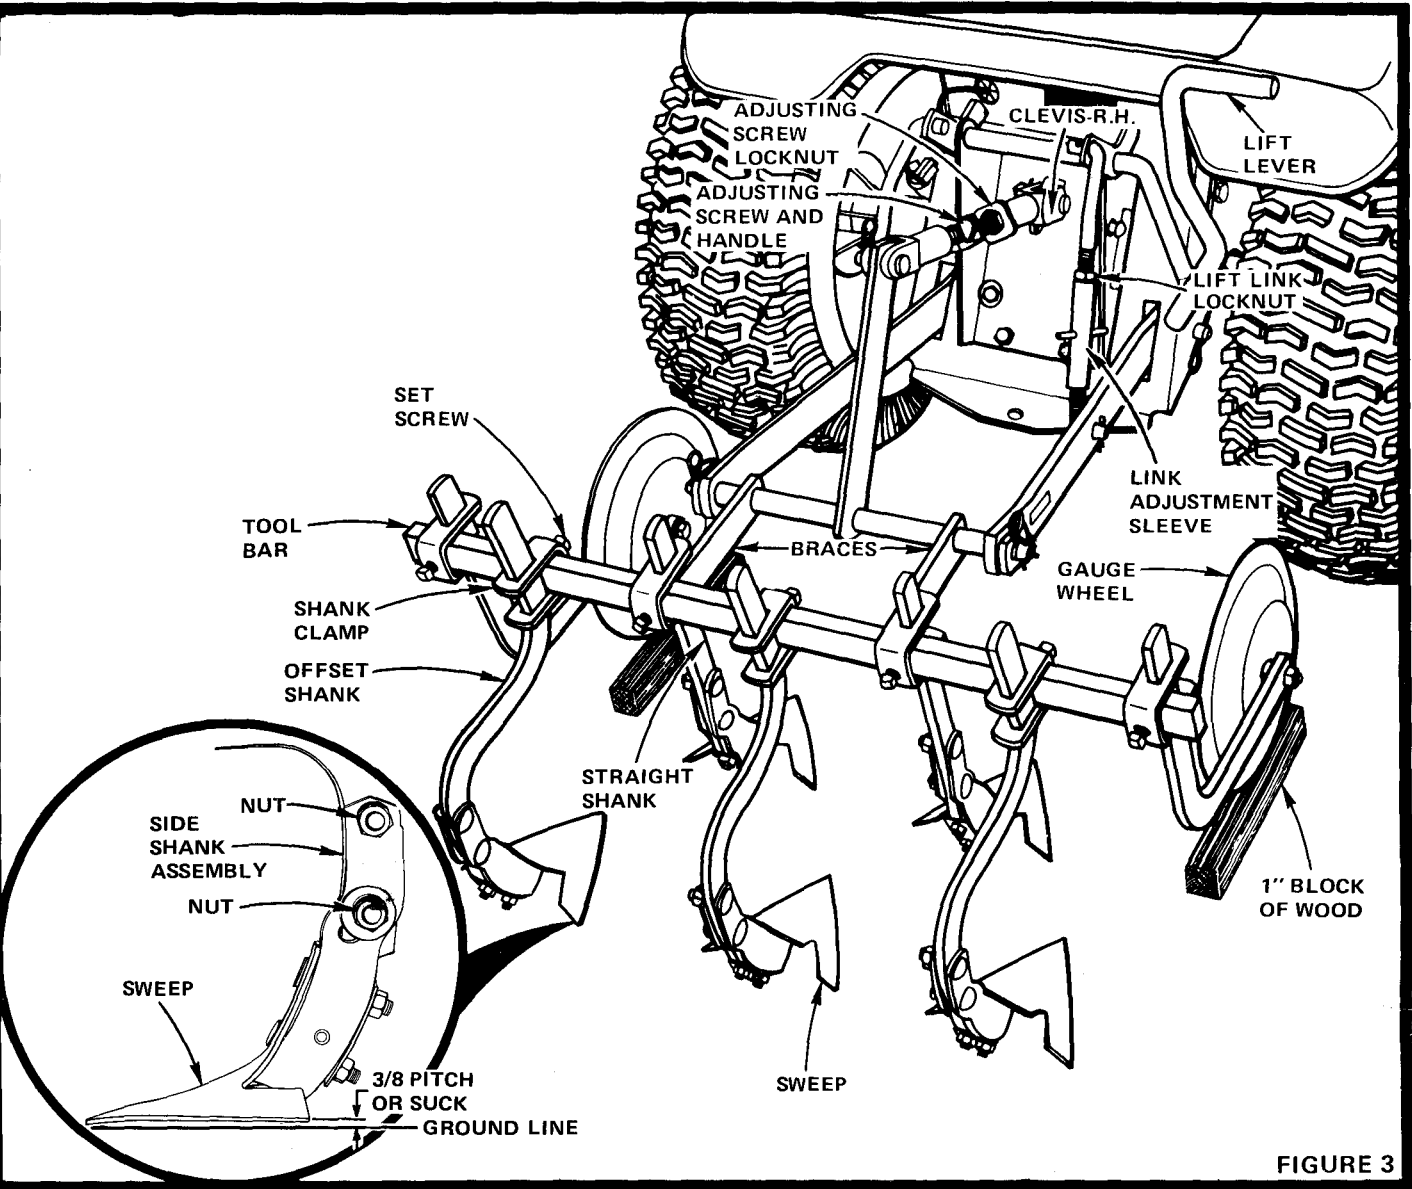

FIGURE 3
Only early, frequent and persistent cultivation will kill most weeds. For destroying most of these weeds, we suggest the Cultivator setting as shown in Fig. 3. In regions of low average rainfall it not only kills weeds quickly, but leaves a roughened surface that holds snow, absorbs moisture, and effectively retards evaporation. Under most conditions, even though the surface soil may be quite dry and pulverized, the sweeps or shovels dig deep enough to bring clods of dirt to the surface. The valuable loose top soil sifts down below the clods where there is much less possibility of its being carried away by wind or water. This means of cultivation will do a job similar to a spring harrow and is very effective in preparing seedbeds. The
12. Lower Tool Bar. Place a 1 inch Block of Wood under each Gauge Wheel (Fig. 3).
21. All Sweeps or Shovels must have a 3/8 Pitch or Suck and all points must touch level surface at the same time (Fig. 3 INSET).